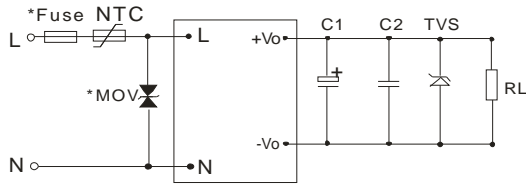
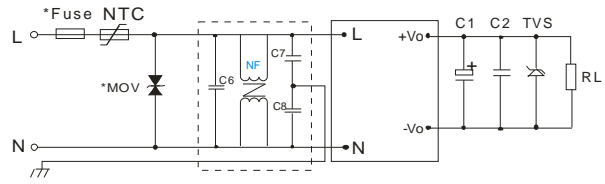

Figure 1 EMC Application Figure 1
Figure 2 LD10 EMC Application Figure 2
- If common requirement to EMC performance, refer to figure 1, if higher requirement to EMC performance, refer to figure 2.